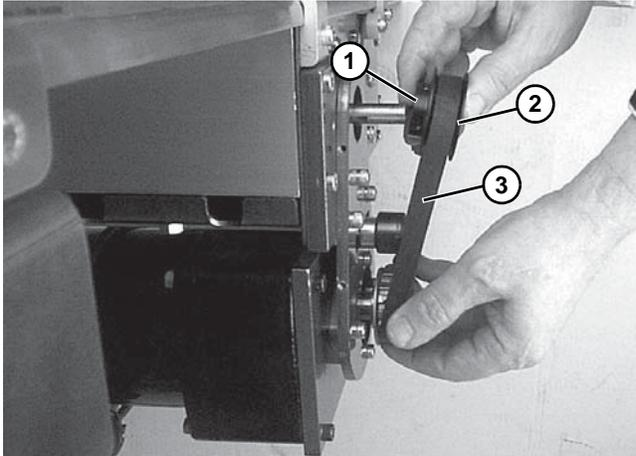

Figure 50
If the timing belt does not slide over the pulley flange, loosen the driven pulley set screws (Figure 50, item 1) and remove the pulley (Figure 50, item 2) with the belt (Figure 50, item 3).